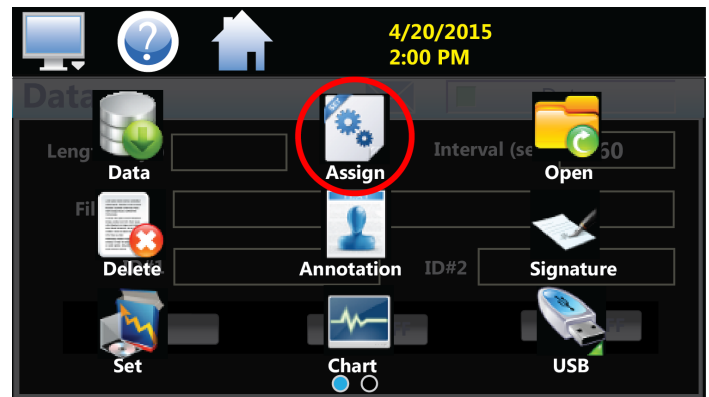

Fig. 61: Assign Icon
1. Press HOME - MONITOR - (swipe screen) DATA - ASSIGN icons (Fig. 61).